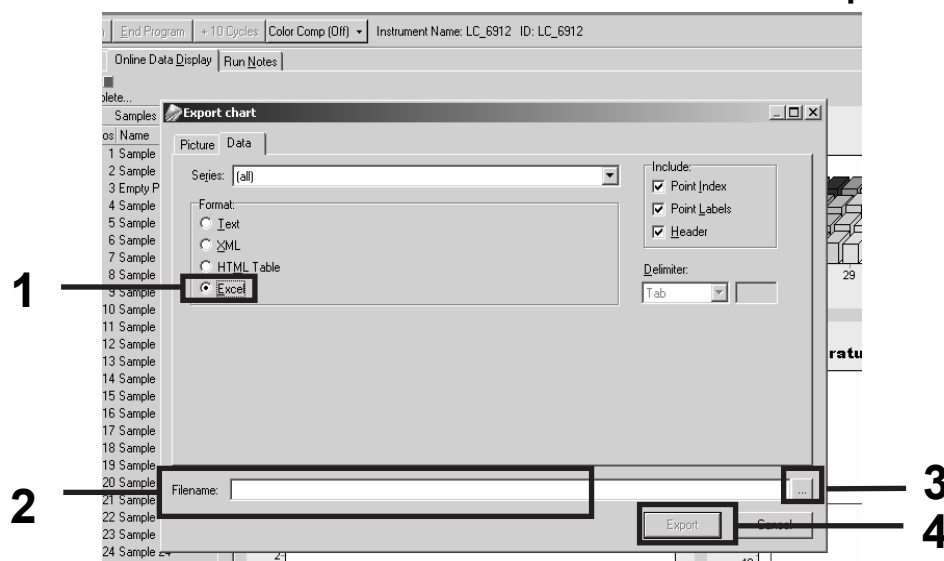

Figure 30. Selecting the export format and data file destination.
13. Click the “Excel” box on the “Export chart” dialog box (Figure 30). Enter a name in the “Filename” dialog field. Select an export destination for the result file with the ... button. Click “Export”.